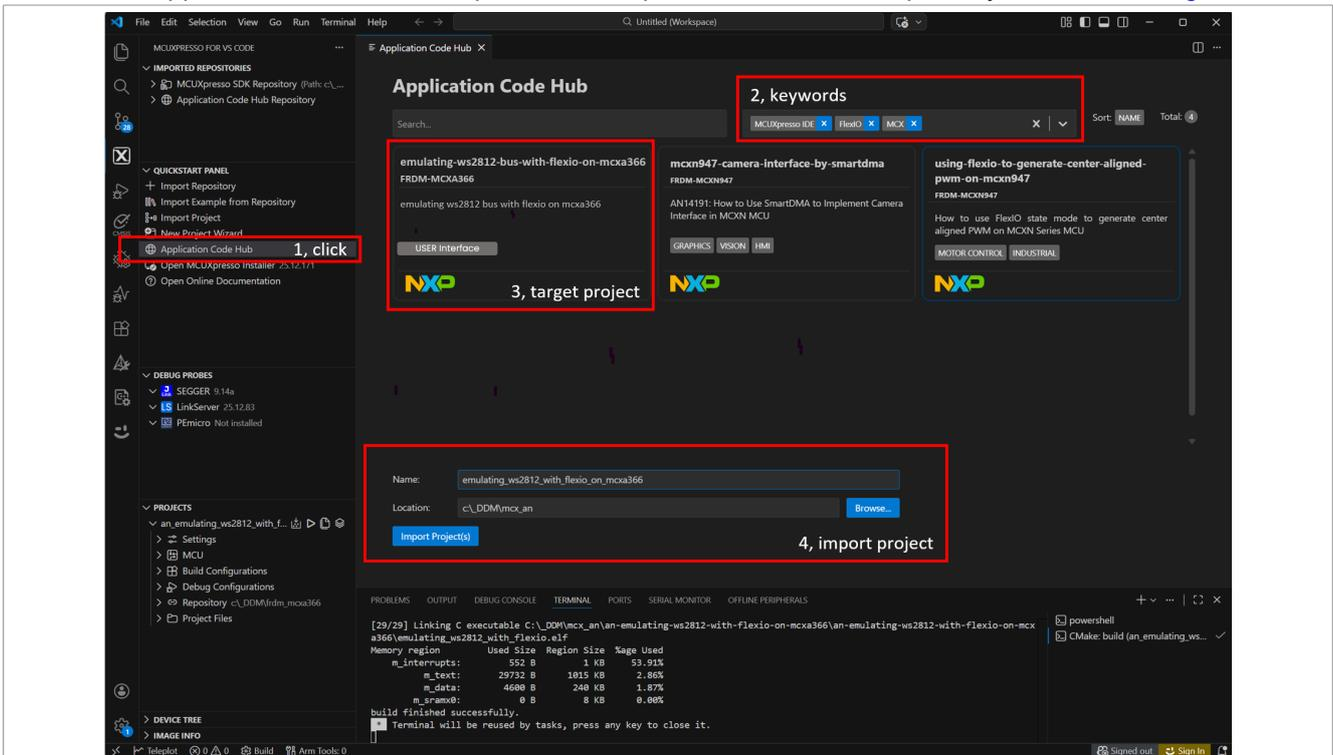

Figure 9. Import ACH project into MCUXpresso for VSC
2. Use the Application Code Hub to import this example from the GitHub repository, as shown in Figure 9.